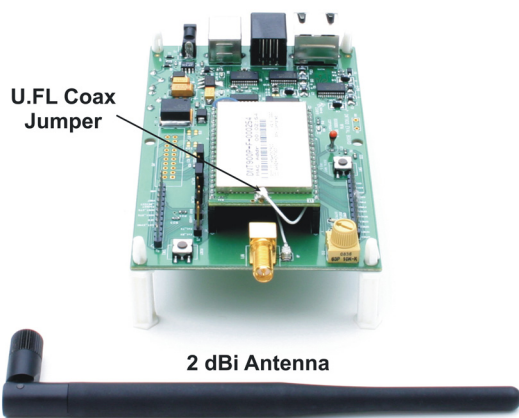

Figure 1
1. Figure 1 shows a DNT900P radio installed on an interface board, a U.FL coaxial jumper cable, and a 2 dBi dipole antenna. Observe ESD precautions when handling the kit circuit boards.